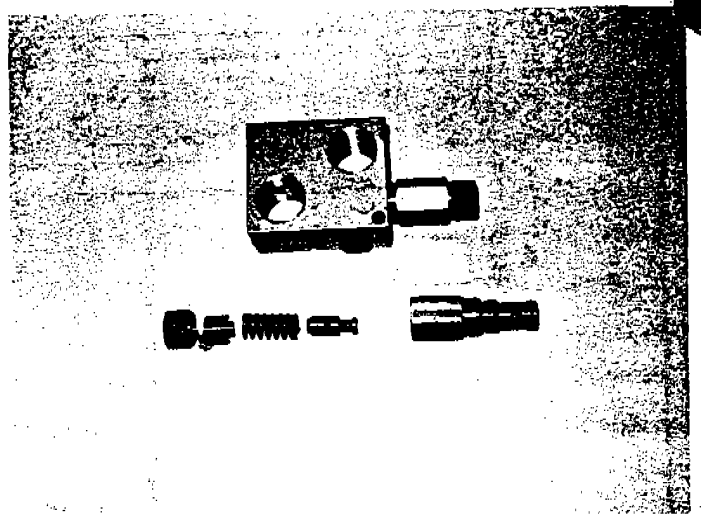

Figure 2
- g. Store the petal lights in the storage sockets on the front of the trailer. (Refer to Fig. 2-d)
2. *Relief-valve malfunction.* Remove the valve cartridges and inspect for damaged or missing "O" rings or stuck plungers. (Fig. 2)
4. *Main relief valve malfunction.* See section A-3, Fig. 2.